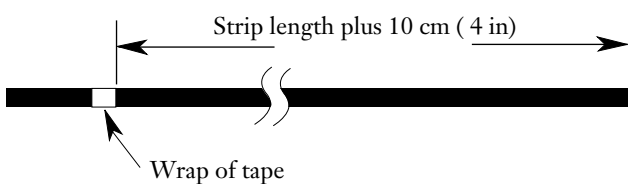

Figure 2
4.1 Determine the proper sheath removal length for the hardware being used. Add 10 cm (4 in.) to this distance and mark a point at this distance from the end of the cable sheath with a wrap of tape (Figure 2).